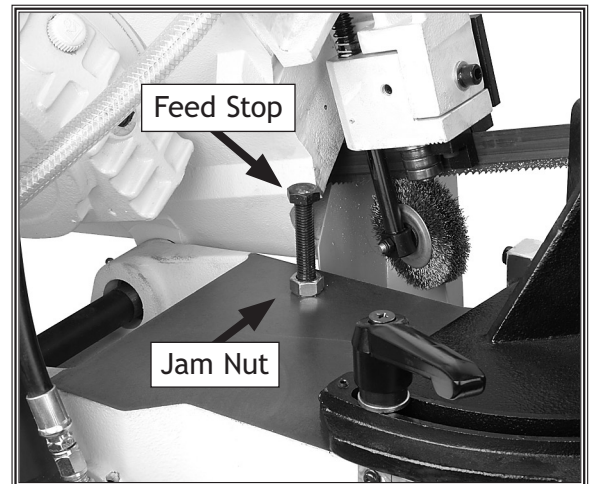

Figure 12. Feed stop.
1. Adjust the feed stop bolt and jam nut (Figure 12), so the bandsaw blade teeth are  $\frac{1}{16}$ " below the vise table surface.